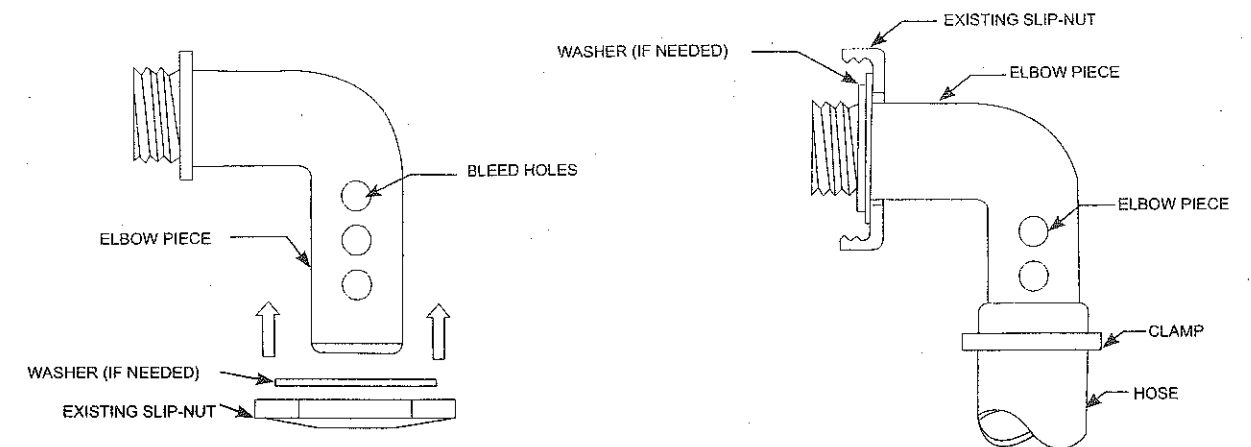

FIGURE 3
3. Refer to Figure 1. Uncoil the hose (3) and remove all twist. Using clamps (15), clamp one end of the hose to the back side of the fountainhead (1) and the other end to the inlet adapter from step 2. Cover one set of bleed holes with the hose (Fig. 3). To tighten clamp, grasp "tabs" between thumb and forefinger and squeeze. Tighten securely with a pair of pliers. To open the clamp, grip one "tab" of the clamp with pliers and twist loose.
4. Using the tie wrap (14), LOOSELY attach the anchor (4) to the hose (3). The anchor (4) should be attached to the hose (3) at a point as the water plus approximately two feet. You will have to estimate what the water depth is where you want the fountain and add two feet. **CAUTION: DO NOT CONSTRICT THE HOSE BY TIGHTENING THE TIE WRAP (14) TOO TIGHT.**